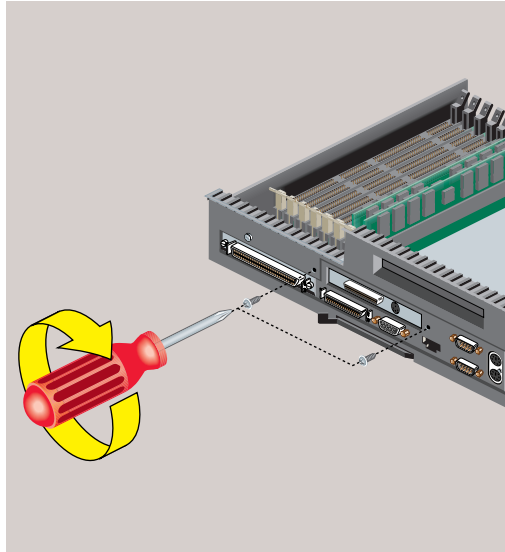

Figure 2-37 Installing the Two Screws
4. Insert and tighten two screws in the locations shown (Figure 2-37).